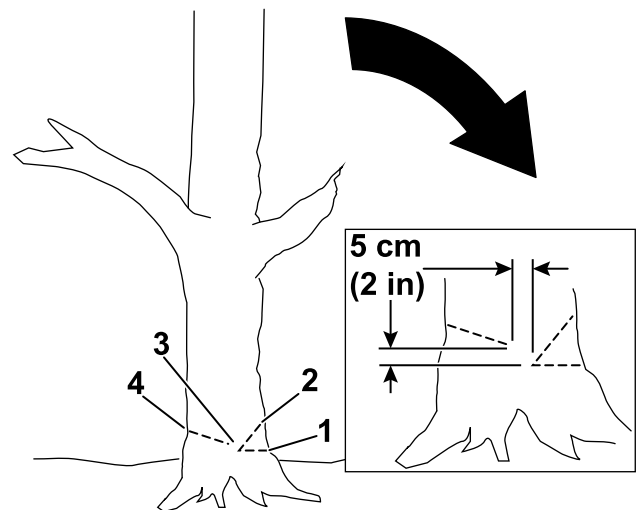

Figure 16
4. Make the first cut a third of the way through the tree diameter on the side where you want the tree to fall (Figure 16).
5. Make a second cut to form a notch, starting the cut at least 5 cm (2 inches) above and away from the first cut (Figure 16).
6. Make the back cut from the opposite side of the notch and about 5 cm (2 inches) higher than the bottom of the notch as shown in Figure 16.
Important: Stop the third cut 2.5 to 5.0 cm (1 to 2 inches) from the notch to form a hinge between the cuts (Figure 16), which keeps the tree from falling in the wrong direction or twisting as it falls.
Note: As the back cut nears the hinge (Figure 16), the tree should begin to fall.